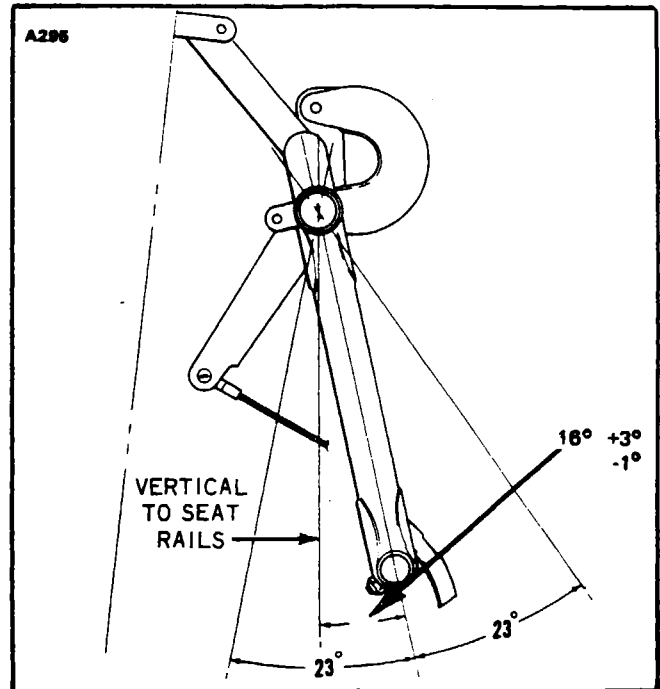

Figure 7-4. Rudder Pedals at Neutral Angle
- f. Adjust the rod end bearings of each steering bungee to align the nose wheel with the chalk line and to bring the rudder pedals into neutral angle fore and aft. There should be no load on the bungee springs. This condition exists when the overall measurement taken between the facing sides of the washers at each rod end of the bungee is 13.71 inches. To align the nose wheel straight forward, stand in front of the nose gear and align the center rib of the tire with the chalk line or lay a straightedge along the side of the tire and parallel with the chalk line. In neutral position, the rudder pedals are tilted aft as shown in Figure 7-4, with the airplane level. Place a bubble protractor against a steering tube to check this angle. One end of each steering bungee must be disconnected and the jam nuts loosened to make this adjustment; do not attempt to make the complete adjustment by means of one bearing, but divide the adjustment between the bearings at each end of each rod. Check that the rod ends have sufficient thread engagement by determining that a wire will not go through the check hole in the rod. Reinstall bungees, tighten and safety the jam nuts.